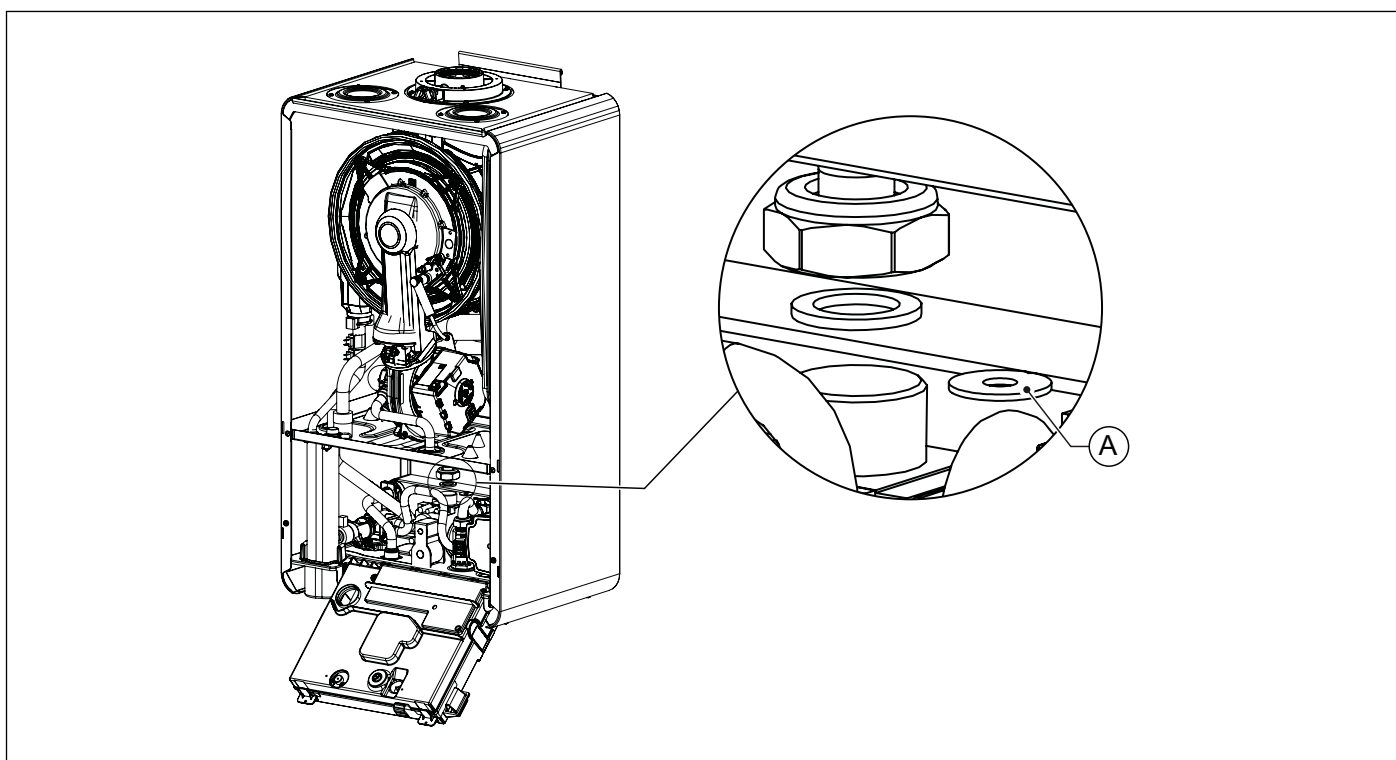

Fig. 34 Gas diaphragm replacement
- Disconnect the gas pipe from the gas valve (see Fig. 34 Gas diaphragm replacement).
- Replace the gas diaphragm (A) with the new gas type (see Fig. 34 Gas diaphragm replacement and Tab. 32 Gas diaphragm diameter (mm)).